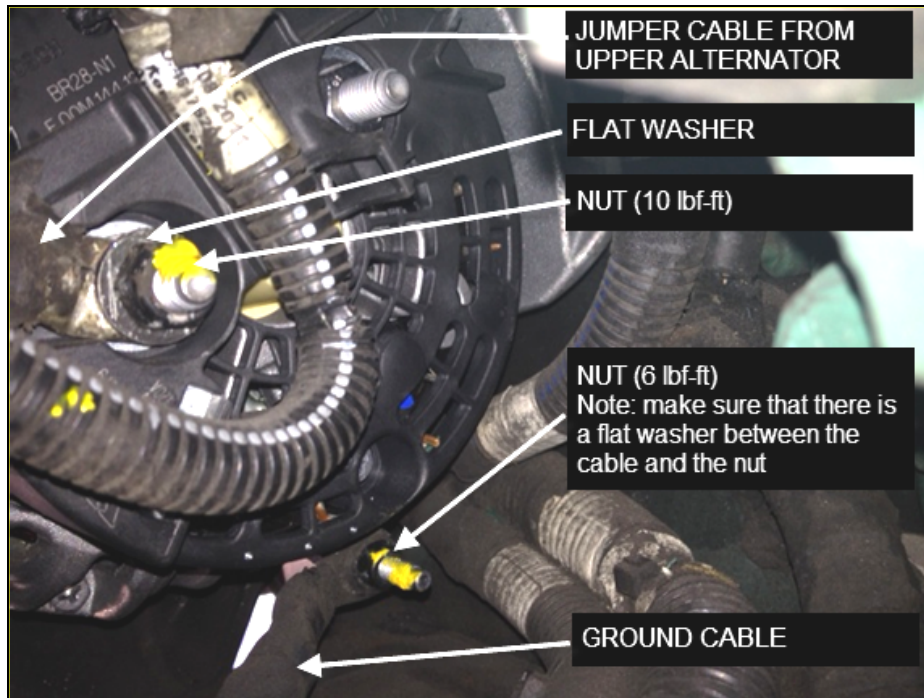

FIGURE 10
- b) Place one new flat washer #5001341 against the jumper cable ring terminal and screw new nut #5001787 (nut torque: 10 lbf-ft) (figure 10).
16. Fit the ground cable onto the alternator ground stud, place one new flat washer #502573 against the ground cable ring terminal and screw a new nut #5001182 (nut torque: 6 lbf-ft) (figure 10).